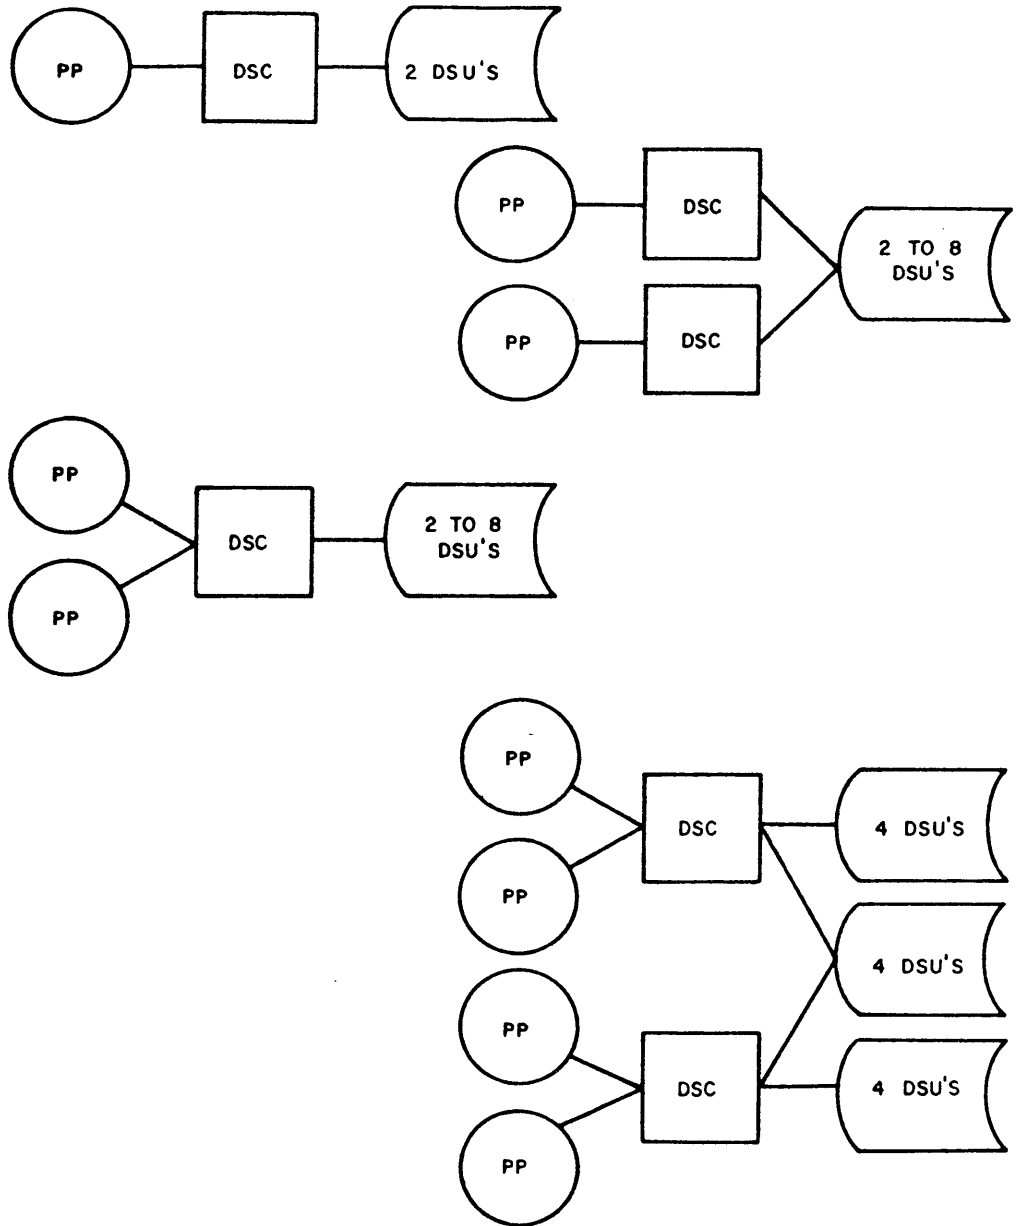

Figure 1-1. Disk Storage Subsystem Configurations
These subsystems consist of one or two 7X54 Series Disk Storage Controllers (DSC) (single or dual computer access) and a minimum of two 844-2 Disk Storage Units (DSU). Each DSC can interface one or two peripheral processor (PP) I/O channels (depending upon DSC type) with a maximum of eight DSUs. Dual access DSCs serve I/O channels on a one-at-a-time basis. Each DSU can connect to one or two DSCs. DSUs connected to two DSCs serve the DSCs on a one-at-a-time basis. Figure 1-1 shows some possible subsystem configurations.